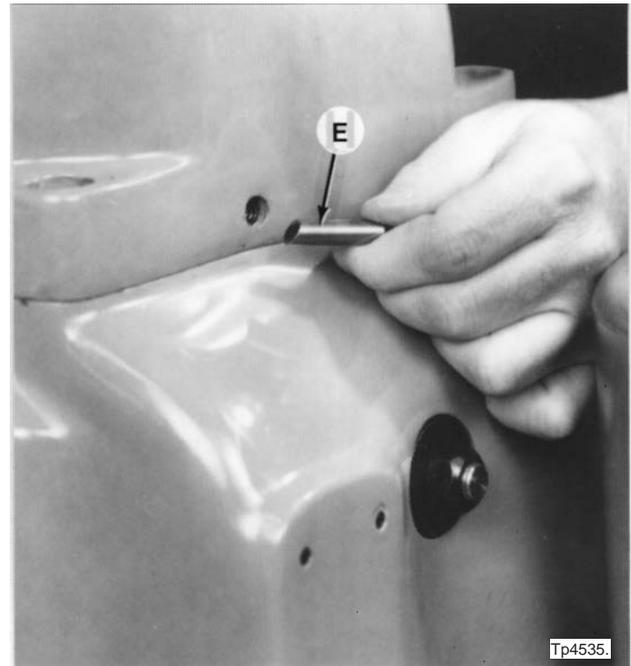

Figure 4.79 - Headstock Locking Plug
37. Remove locking plug "E", Figure 4.79 .
Be sure the angle on locking plug “E”, Figure 4.79, matches the angle on the bed plate dovetail.
8. Replace locking plug “E”, Figure 4.79 .